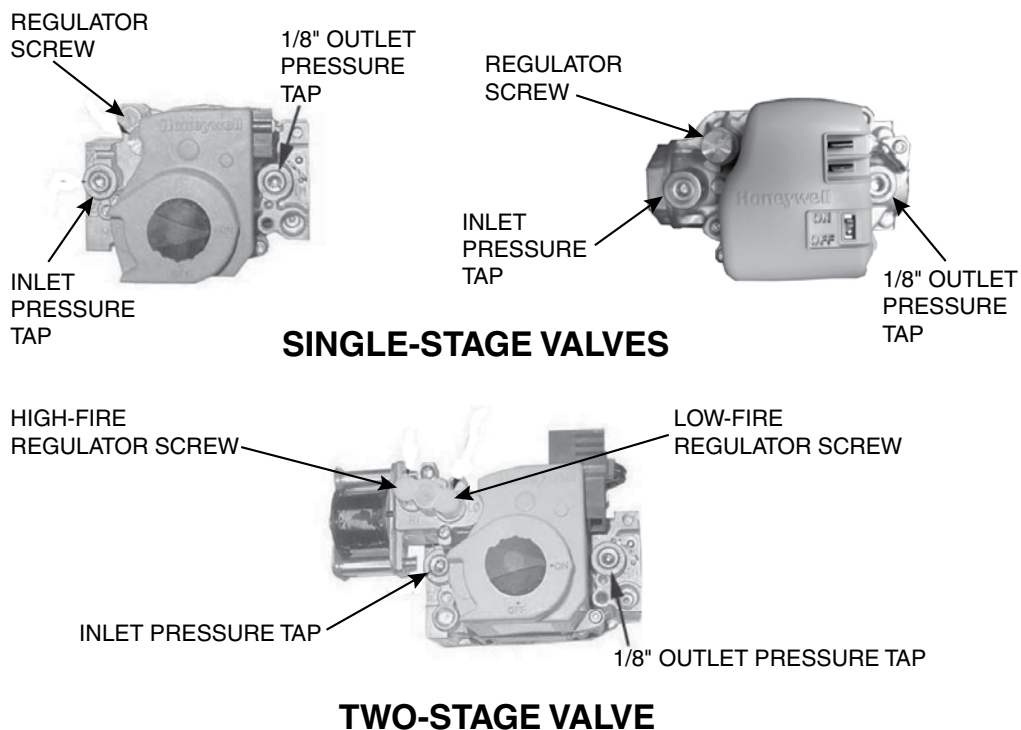

Figure 3. Gas Valves
- c. Connect manometer to 1/8-inch output pressure tap on valve (see Figure 3).
- (1) Turn knob or switch on top of valve to ON.
- (2) Remove cap from regulator screw (see Figure 3) and adjust pressure in accordance with Table 4 by turning regulator screw IN (clockwise) to increase pressure or OUT (counterclockwise) to decrease pressure.
- (1) Disconnect wire from HI terminal on gas valve.
- (2) Remove cap from low-fire regulator screw (see Figure 3) and adjust pressure in accordance with Table 4 by turning regulator screw IN (clockwise) to increase pressure or OUT (counterclockwise) to decrease pressure.
- (3) Reconnect wire to Hi terminal on gas valve.
- i. Connect manometer to inlet pressure tap (see Figure 3). While heater is operating, measure inlet pressure, which should be between 5 and 13.5 IN WC for natural gas or between 11 and 13.5 IN WC for propane.